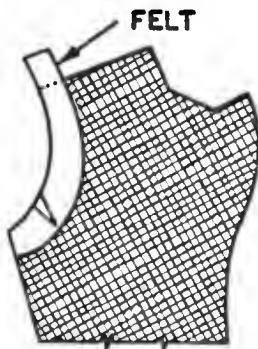

Fig. 105A. Adding felt.
- B. Place the felt, which is about  $1\frac{1}{2}$  to 2 in. wide, on top of the hymo. Bring it to the seam at the underarm and allow it to extend loosely at the shoulders so that later it may extend onto the back reinforcement (Fig. 105A).
- C. Dart the felt with a scye dart to correct the fit at this point (Fig. 105A).